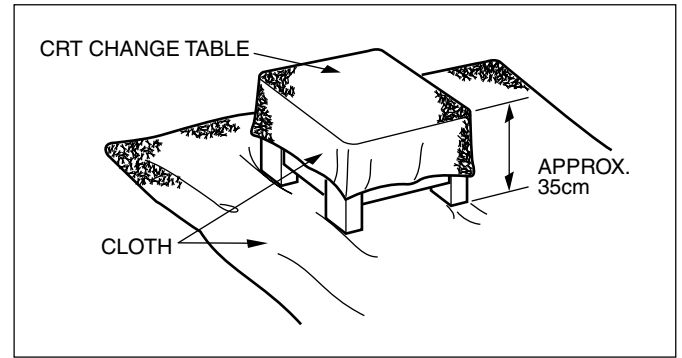

Fig. 2
- 1. Putting the CRT change table on soft cloth, the CRT change table should also be covered with such soft cloth (shown in Fig. 2).
| <p>(4) System constant check and setting</p> <p>1) Press SLEEP TIMER key and, while the indication of “SLEEP TIMER 0 MIN.” is being displayed, press DISPLAY key and VIDEO STATUS key on the remote control unit simultaneously.</p> <p>2) The SERVICE MENU screen of Fig.1 is displayed.</p> <p>3) While the SERVICE MENU is displayed, again simultaneously press the DISPLAY and VIDEO STATUS keys to display the Fig.2 SYSTEM CONSTANT screen.</p> <p>4) Refer to the SYSTEM CONSTANT table and check the setting items. Where these differ, select the setting item with the MENU UP/DOWN key and adjust the setting with the MENU LEFT/RIGHT keys. (The letters of the selected item are displayed in yellow.)</p> <p>5) After adjusting, release the MENU LEFT/RIGHT key to store the setting value.</p> <p>6) Press the EXIT key twice to return the normal screen.</p> | <div><div>SERVICE MENU</div><table><tr><td>PICTURE</td><td>SOUND</td></tr><tr><td>THEATER</td><td>OTHERS</td></tr><tr><td>LOW LIGHT</td><td>HIGH LIGHT</td></tr><tr><td>RF AFC1</td><td>RF AFC2</td></tr><tr><td>VCO(CW)</td><td>I2C BUS CTRL</td></tr></table><div>SELECT BY <div><div>▲▼</div><div>◀▶</div></div>EXIT BY <div>EXIT</div></div></div> <p>[AV-36F702]</p> <div><div>SERVICE MENU</div><table><tr><td>PICTURE</td><td>SOUND</td></tr><tr><td>THEATER</td><td>OTHERS</td></tr><tr><td>PIP</td><td>3-D Y/C</td></tr><tr><td>LOW LIGHT</td><td>HIGH LIGHT</td></tr><tr><td>RF AFC1</td><td>RF AFC2</td></tr><tr><td>VCO(CW)</td><td>I2C BUS CTRL</td></tr></table><div>SELECT BY <div><div>▲▼</div><div>◀▶</div></div>EXIT BY <div>EXIT</div></div></div> <p>[AV-36F802]</p> <p>Fig.1</p> <div><div>SYSTEM CONSTANT</div><table><tr><td>MODEL</td><td>:</td><td>**-*****</td></tr><tr><td>PURITY</td><td>:</td><td>YES</td></tr><tr><td>CCD</td><td>:</td><td>YES</td></tr><tr><td>V-CHIP</td><td>:</td><td>YES</td></tr><tr><td>CAN V-CHIP</td><td>:</td><td>YES</td></tr></table><div>***** **</div><div>SELECT BY <div><div>▲▼</div><div>◀▶</div></div>EXIT BY <div>EXIT</div></div></div> <p>Fig.2</p> | PICTURE | SOUND | THEATER | OTHERS | LOW LIGHT | HIGH LIGHT | RF AFC1 | RF AFC2 | VCO(CW) | I2C BUS CTRL | PICTURE | SOUND | THEATER | OTHERS | PIP | 3-D Y/C | LOW LIGHT | HIGH LIGHT | RF AFC1 | RF AFC2 | VCO(CW) | I2C BUS CTRL | MODEL | : | **-***** | PURITY | : | YES | CCD | : | YES | V-CHIP | : | YES | CAN V-CHIP | : | YES |